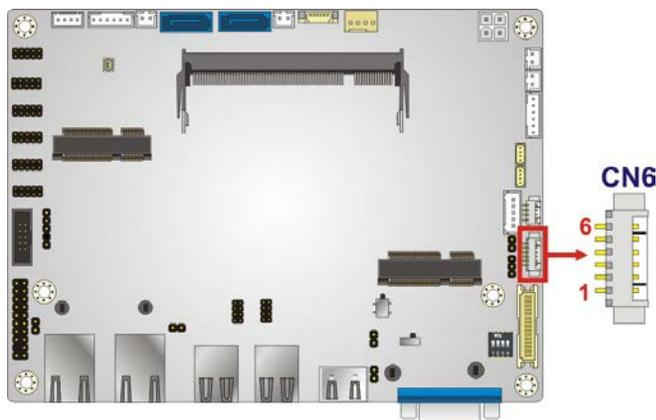

Figure 3-5: Brightness Button Connector Location
- CN Location:** See **Figure 3-5**